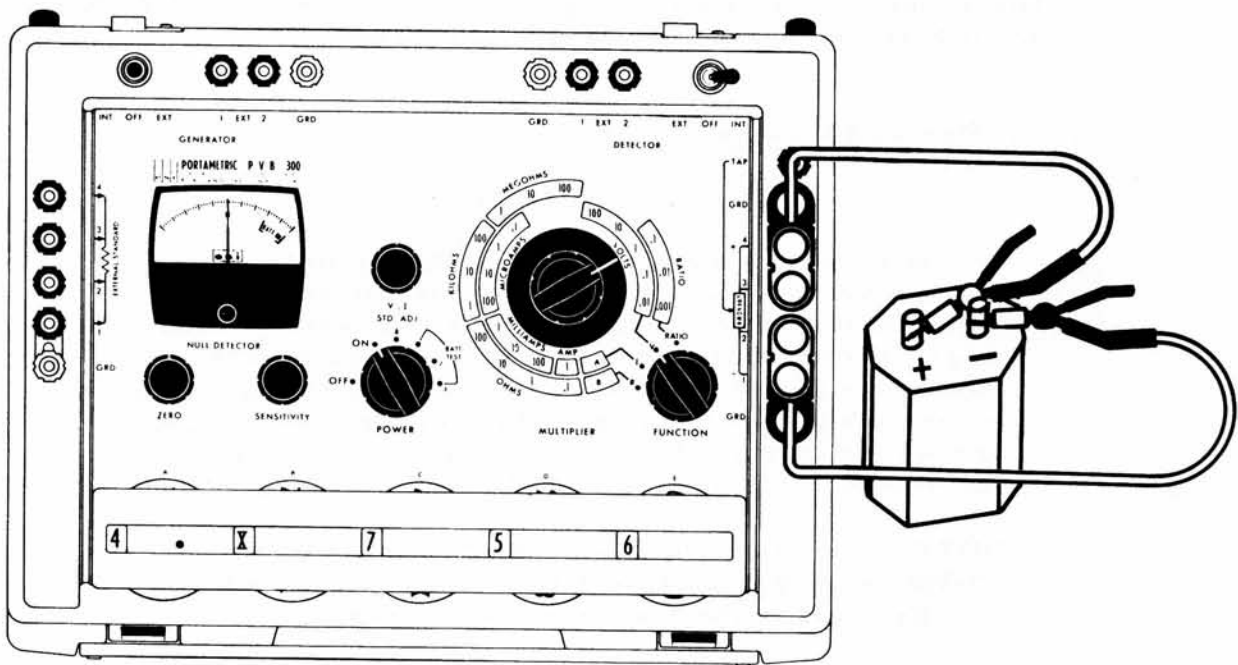

Figure 2.4 - Voltage Measurement
- 12) Connect unknown voltage to UNKNOWN terminals 1 and 4 observing that + end connects to terminal 4. Kelvin Klips[®] can be used. (See Figure 2.4)